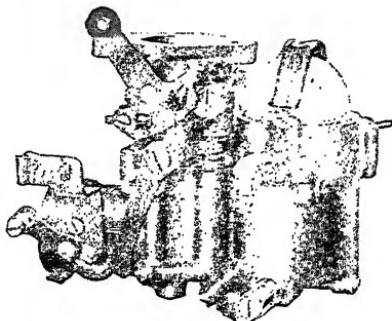

Fig. 59. Exterior View of the Standard Model "U" Carburetor. It is equipped with Vacuum Gas Feature.
*Stromberg Vis-a-Gas.* A number of the Stromberg carburetors, notably the Model "U," are fitted with the Stromberg vis-a-gas. This little device has a transparent cover which goes over the carburetor bowl and contains within it a gasoline strainer. Every drop of gasoline entering the carburetor is strained of dirt and impurities, thus preventing the clogging of the small orifices and jets in the carburetor. This device may easily be drained or cleaned. It is shown in position on the Model "U" in Fig. 59.